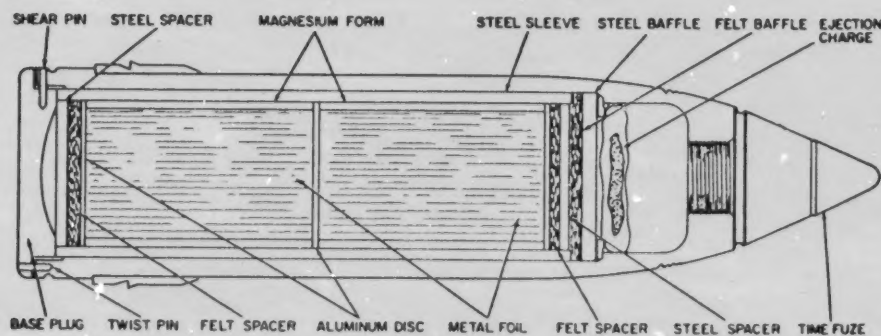

Figure 3-15.—Typical CHAFF projectile, sectional view.
e. CHAFF (ex-Window) projectiles (fig. 3-15) are loaded with metal foil strips and a small burster charge. When exploded at high altitude, the scattered strips hinder enemy radar operation.